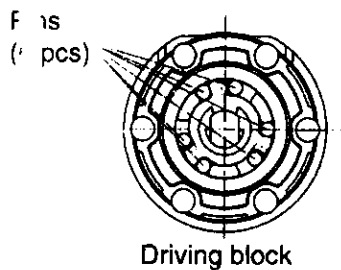

Fig.9
4. Start from inserting 6 pins into the driving block as shown in the Fig. 9.